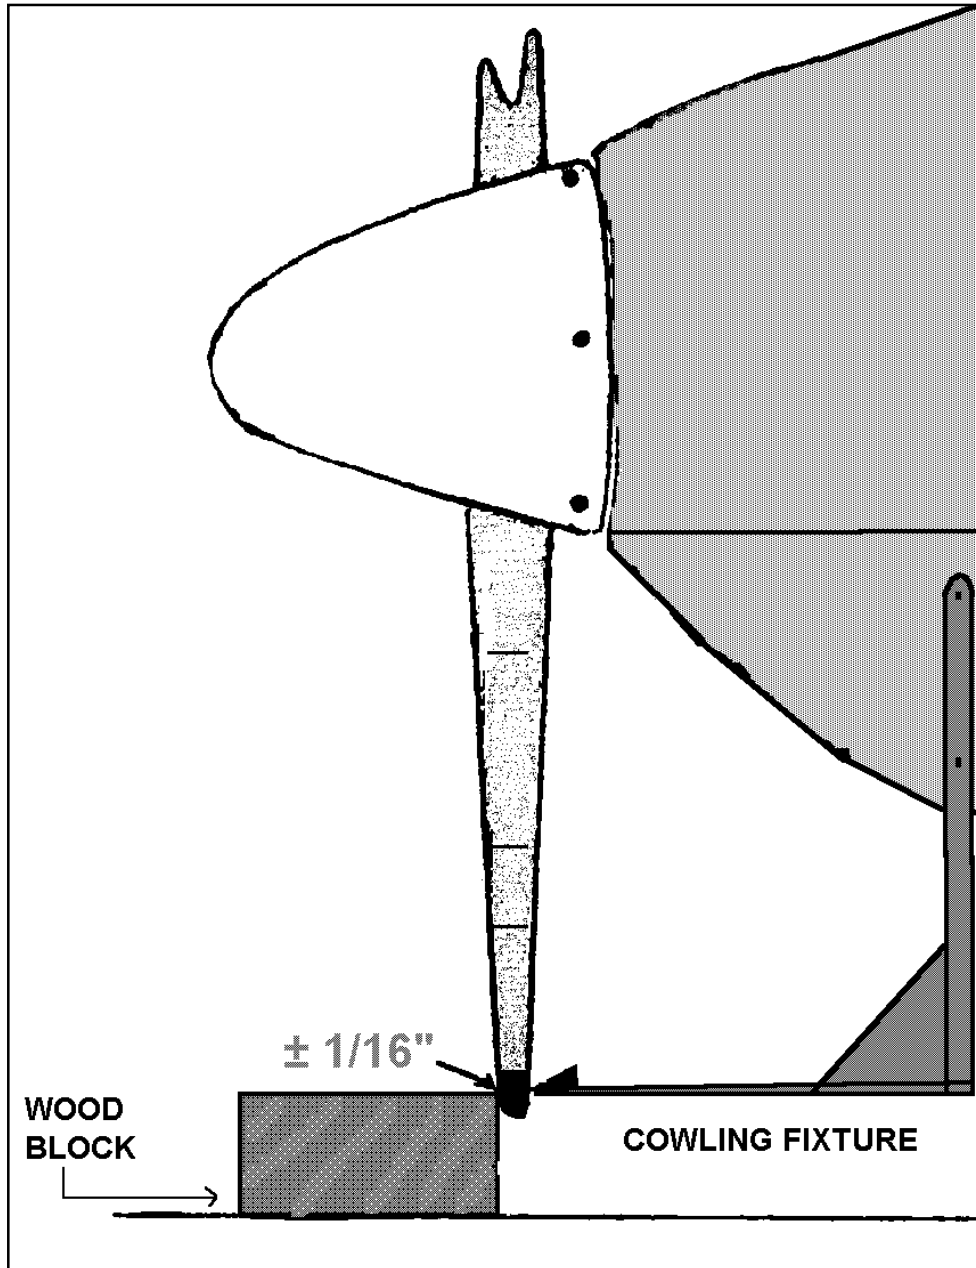

FIGURE 8-30. Propeller tracking (wood block or cowling fixture shown).
d. Place a solid object (e.g. a heavy wooden block that is at least a couple of inches higher off the ground than the distance between the propeller tip and the ground) next to the propeller tip so that it just touches (see figure 8-30), or attach a pointer/indicator to the cowling itself.